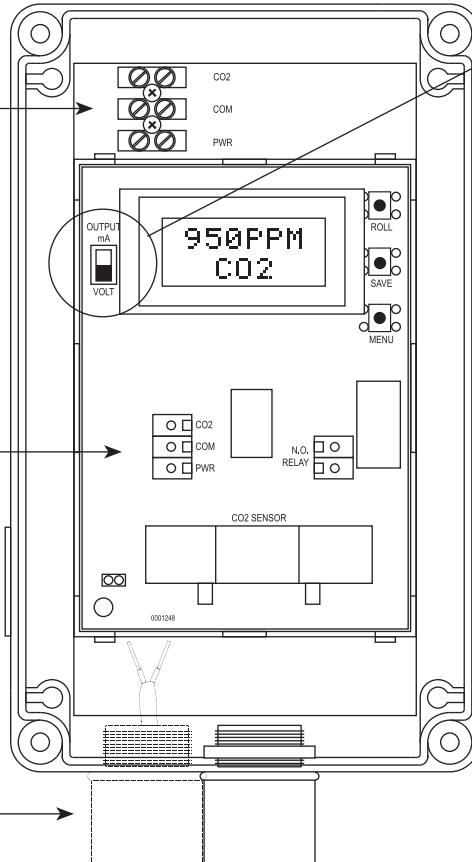

Figure 6
• Select the desired signal output type by sliding the Output switch into desired position as shown in Figure 6. The factory default is "VOLT" and set to 0-5 Vdc. It may be changed to 0-10 Vdc during program set up. The "mA" setting provides a 4-20mA output.